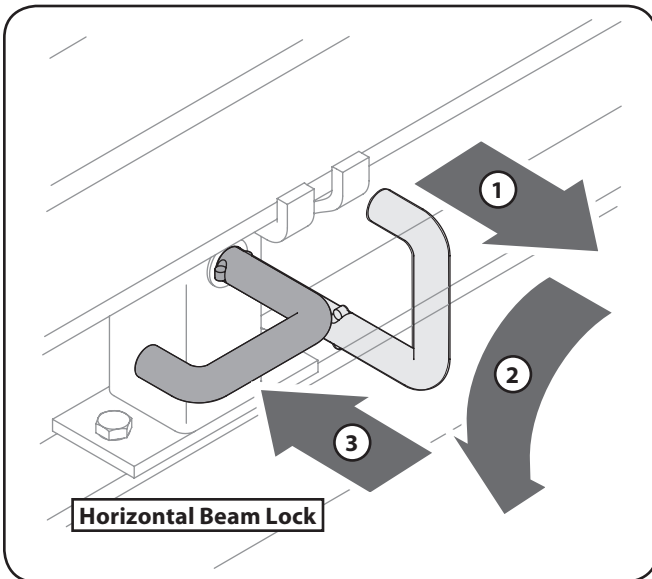

Figure 5-3
- b. To lock the beam in the horizontal position, pull out on the horizontal beam lock and rotate it to secure the beam. See Fig. 5-3.